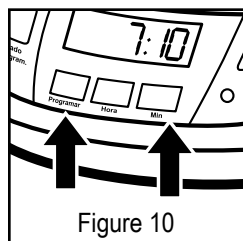

Figure 10
3. While still pressing and holding the SET DELAY button, press and hold the MIN. button until the clock displays the correct minute. See Figure 10.